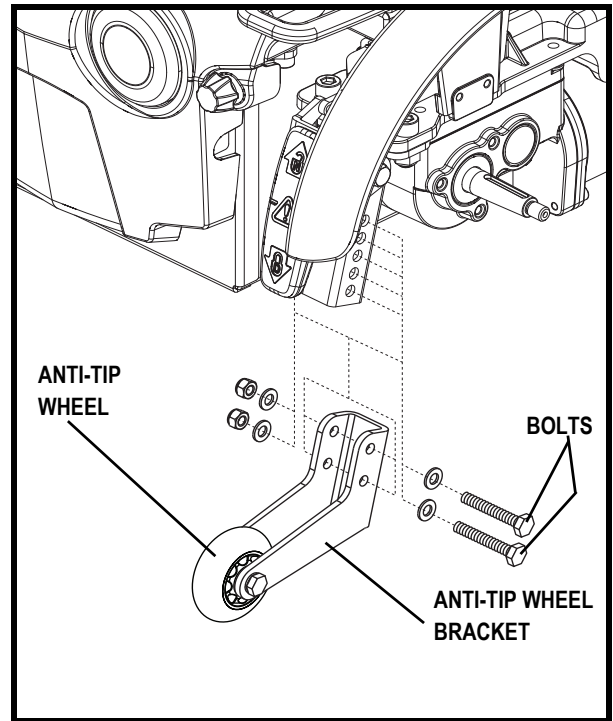

Figure 15. Anti-Tip Wheel Assembly
1. Remove both bolts from the anti-tip wheel bracket. See figure 15.
2. Raise or lower the anti-tip wheel in 1.25-cm (0.5-in.) increments by aligning the appropriate adjustment holes. See figure 15.